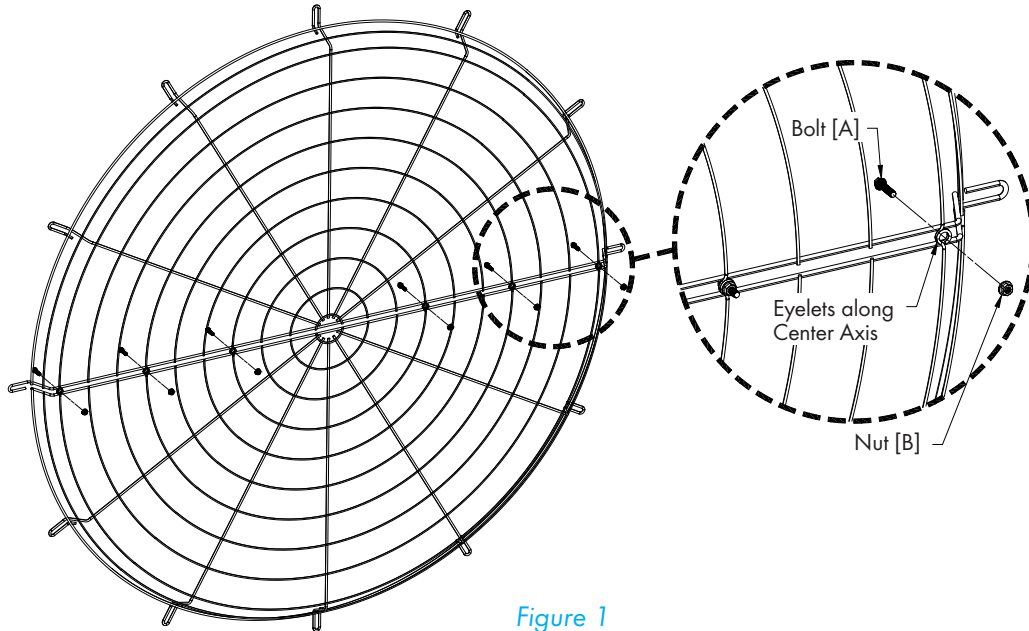

Figure 1
Take the 2 halves of the Outlet Basket Guard and align the center axis of each so the eyelets on the basket part are facing the same direction and the eyelets along the center axis are aligned together. *See Figure 1.* Secure the 2 halves of the Outlet Guard together using (6) Bolts [A] and Nuts [B]. *See Figure 1.*